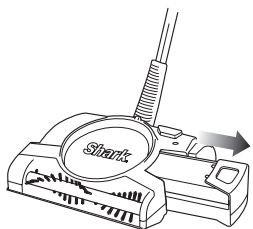

Fig. 8
- 1 To achieve the best performance, empty the dust container after each use. Pull the dust container straight out from the side. (Fig. 8)
- 1 Pull the dust container straight out from the side of the unit to remove. (Fig. 8)